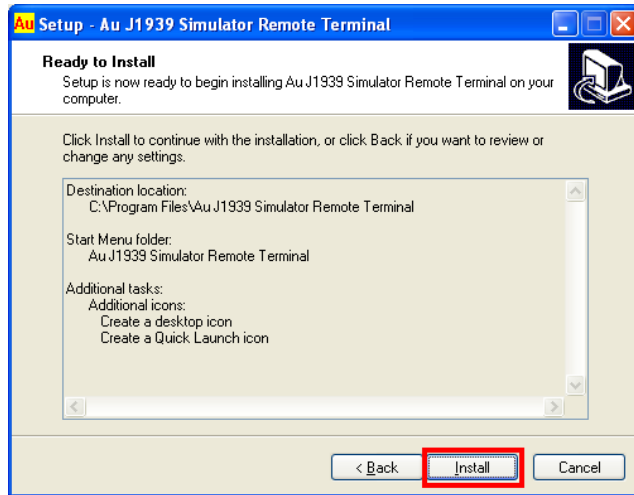

Figure A-8
8. Ready to Install” window pop up, click “Install” (figure A-8)